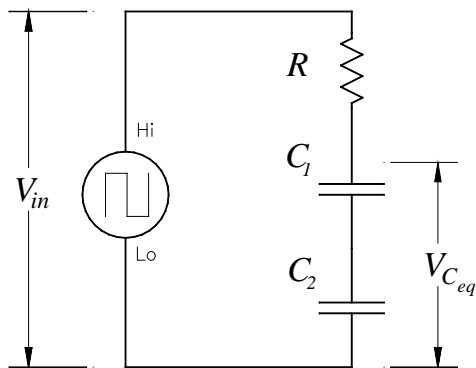

Figure 6 Diagram showing capacitors wired in series.
- 7) Now connect the two capacitors in series as shown in Figure 6.